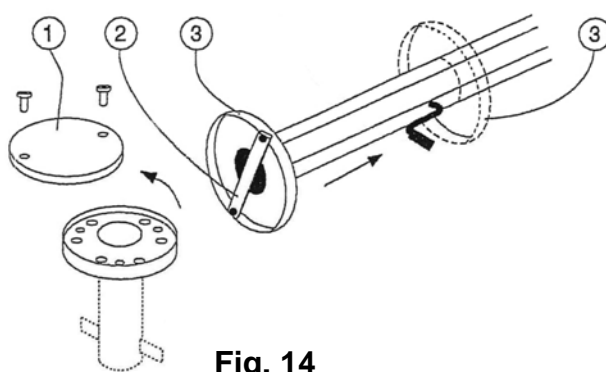

Fig. 14
- Remove the wraparound ring (3) and secure the padded ring with the inserted crank handle (Fig. 14).